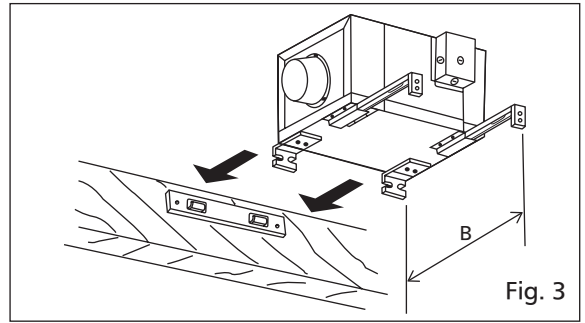

Fig. 3
5. Insert the holder, located on the unit, into the hanger. (Fig.3)